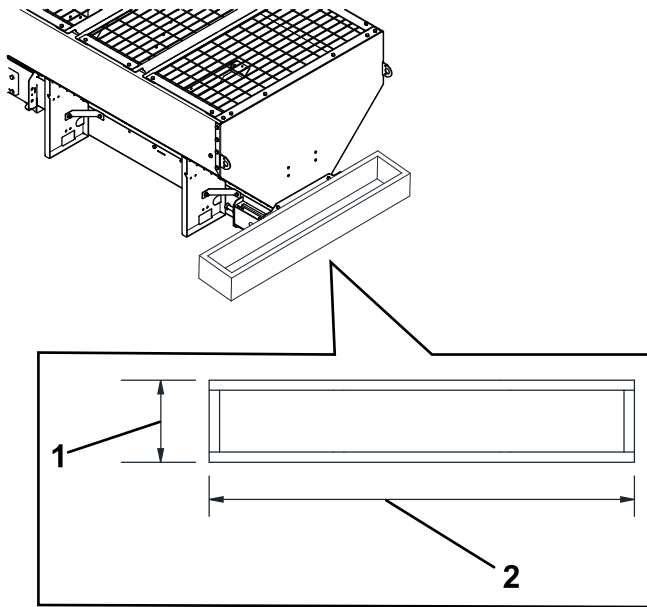

Figure 7
2. Using 3.8 x 18.4 cm (1-1/2 x 7-1/4 inch) lumber, build the spacer as shown in Figure 7.